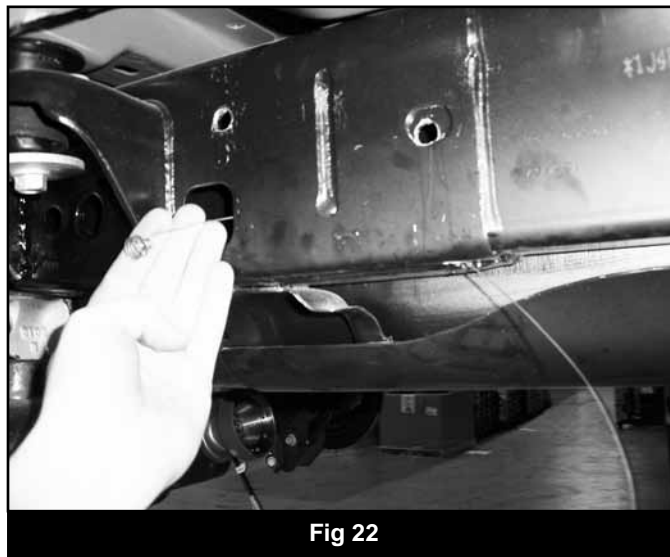

Fig 22
14. Use the provided fish wire to pull the 1/2" bolt tab (01797) through the frame (Fig 22). Note: Do not put a washer on the bolt tab.